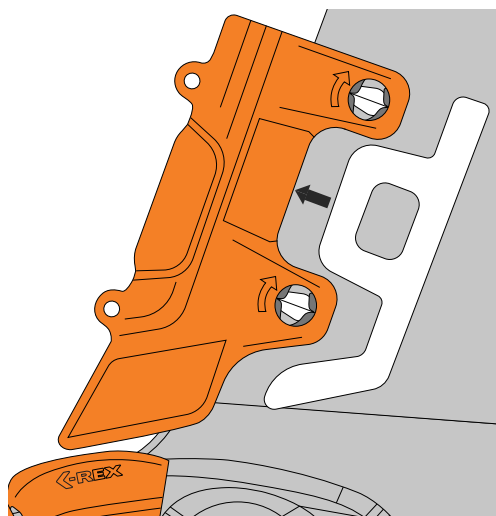

Fig. 14
Step 5 – Fit the weld-on base on both sides of the bucket wall like described in figures 14 and 15. Secure contact in areas A and B. Spot weld the base to the bucket walls and preheat weld-on base (material Hardox 450) to the recommended temperature 150°C. Proceed with welding inside/outside of the base.